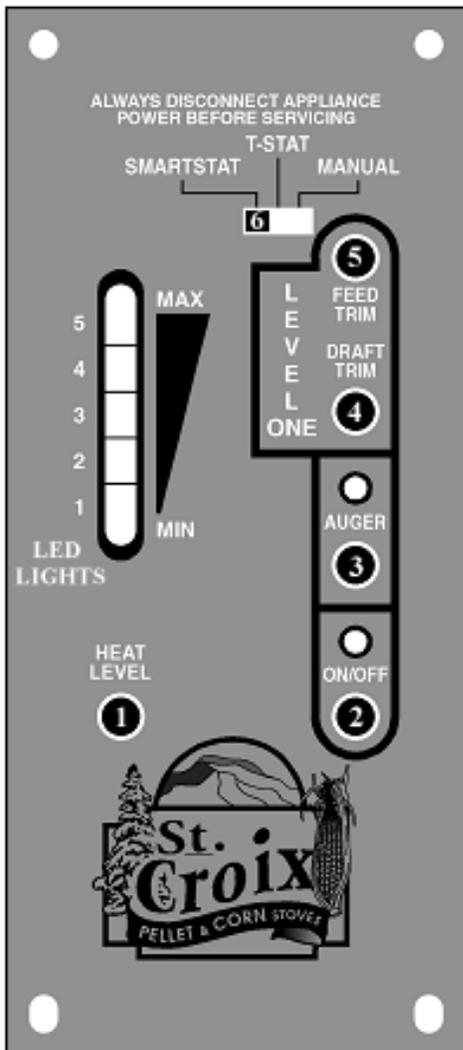

Figure 2
The Hastings is approved to burn a mixture of pellets and corn (maximum 50% corn). The Thermostat Switch should be set to the Manual position. (*See Fig. 2 on page 5*) Operation of the stove doesn't change when burning a mixture of pellets and corn. The burn pot will need to be cleaned on a daily basis, using the "Pot Scraper Tool" shown in figure 5 on page 9. Use the Pot Scraper Tool to remove any clinkers that build up because of the corn when needed. For more information, read the Daily, Periodic and Yearly Maintenance section towards the back of this manual.
A closer look at the Control Board on page 5, in figure 2 will explain how the board works. There are five buttons labeled 1 through 5, a slide switch labeled 6 and a LED Light bar with 5 Heat Settings. **The LED Light bar is also used during the Diagnostic process, see page 6 and 7 for more details.**
The buttons on the board function as follows: *(Refer to Figure 2. The touch pad buttons and Slide Switch are labeled with the white numbers 1 through 6)*
### Lighting Your Stove. (Refer to Figure 2)
### Shutting The Stove Off (*Refer to Figure 2*)
The #2 LED and the #3 LED lights on the LED Light bar as shown in Figure 2 will flash to give a diagnostic code to help in diagnosing problems that may occur.
feeding fuel. Once the stove completes the safety shutdown, the #3 LED will start blinking. (See Figure 2 on Page 5 and point 3 on page 15)
2. The **High Limit** switch. This sensor will sense if the unit reaches temperatures that are too high for normal operation. If this happens the Auger will quit feeding and the #2 and #3 LED lights will flash simultaneously. (See Figure 2 on Page 5 and point 4 on page 16)
3. The **Vacuum** Switch - For the stove to operate, the Firebox needs to be sealed. During the first 30 seconds after the stove has been turned on the Control Board will check if the switch senses negative pressure (Vacuum) in the Firebox of the stove. If there is no negative pressure, the stove will shut down and the #2 LED will start blinking. (See Figure 2 on Page 5 and point 2 on page 15).